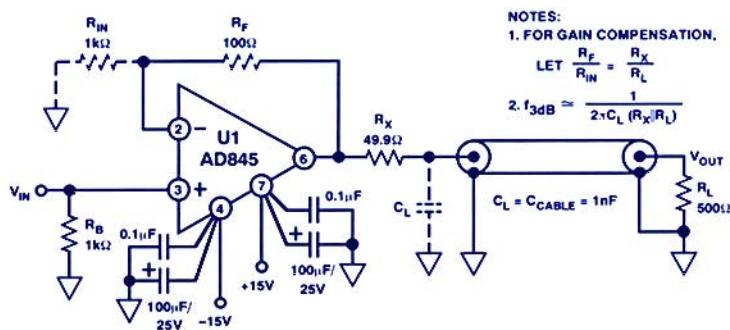

Figure 2. Open-loop series resistance isolates capacitive load in voltage-input op-amp circuit.
- Loss of slew rate: The capacitive load can limit the slew rate (SR). In general, the inherent SR of the amplifier will be reduced to  $I_{O(\text{max})}/C_L$  volts per second. For example, while the AD845 has a basic SR of 100 V/ $\mu$ s, the  $\pm 50\text{-mA}$  output-current limits cause it to fall to about 50 V/ $\mu$ s with  $C_L = 1 \text{ nF}$ . The SR is subject to the uncertainty of the amplifier's short-circuit current limit, which usually varies inversely with temperature. *This general limitation will apply to any capacitively loaded amplifier and is particularly acute in high-slew-rate devices.*
The general technique of Figure 2 can be used with most amplifiers. The higher-speed,  $\pm 100\text{-mA}$ -output AD842—manufactured on a complementary bipolar (CB) process—provides more current to a load, but it must be connected for a closed-loop gain of at least 2 V/V. This can be done without affecting the low-frequency gain by connecting an appropriate “dummy” noise-gain resistor between the amplifier's  $\pm$  inputs. (R-C networks can also be used, avoiding an increase in output dc offset—but possibly increasing settling time.)
This circuit, similar to Figure 2, is configured differently for gain, because the AD811 is a transimpedance amplifier. When they are used as non-inverting gain stages, the value of  $R_F$  is fixed, and  $R_{IN}$ 's value is set to adjust the gain. For the conditions of Figure 2,  $R_F$  is set at 750  $\Omega$ ; for a simple voltage follower,  $R_{IN}$  is left open. To correct for the output attenuation,  $R_{IN}$  is 30.9 k $\Omega$ .
The AD811 also permits  $R_F$  to be increased to improve capacitive load-handling for  $R_X = 0$ , but with less-flat frequency response. With  $R_X = 12 \Omega$ , as shown, response is optimized into a 1-nF load4. The AD811 has major benefits in this application, since the bandwidth is increased (over Figure 2) to 13.5 MHz. The  $\pm 150\text{-mA}$  short-circuit output drive of the AD811 increases the circuit's SR to 150 V/ $\mu$ s (much less than its unloaded 2500 V/ $\mu$ s spec, but much more than that of Figure 2).